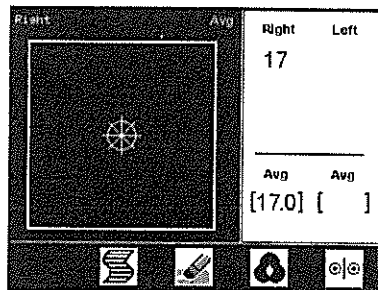

Figure 3
7. As the alignment continues, you will see the circular icon moving around the screen until it centers. At this point, the icon stops moving and a measurement is taken. The screen will change and display a reading for the eye that was measured. The screen will look similar to that shown below (See Figure 3).